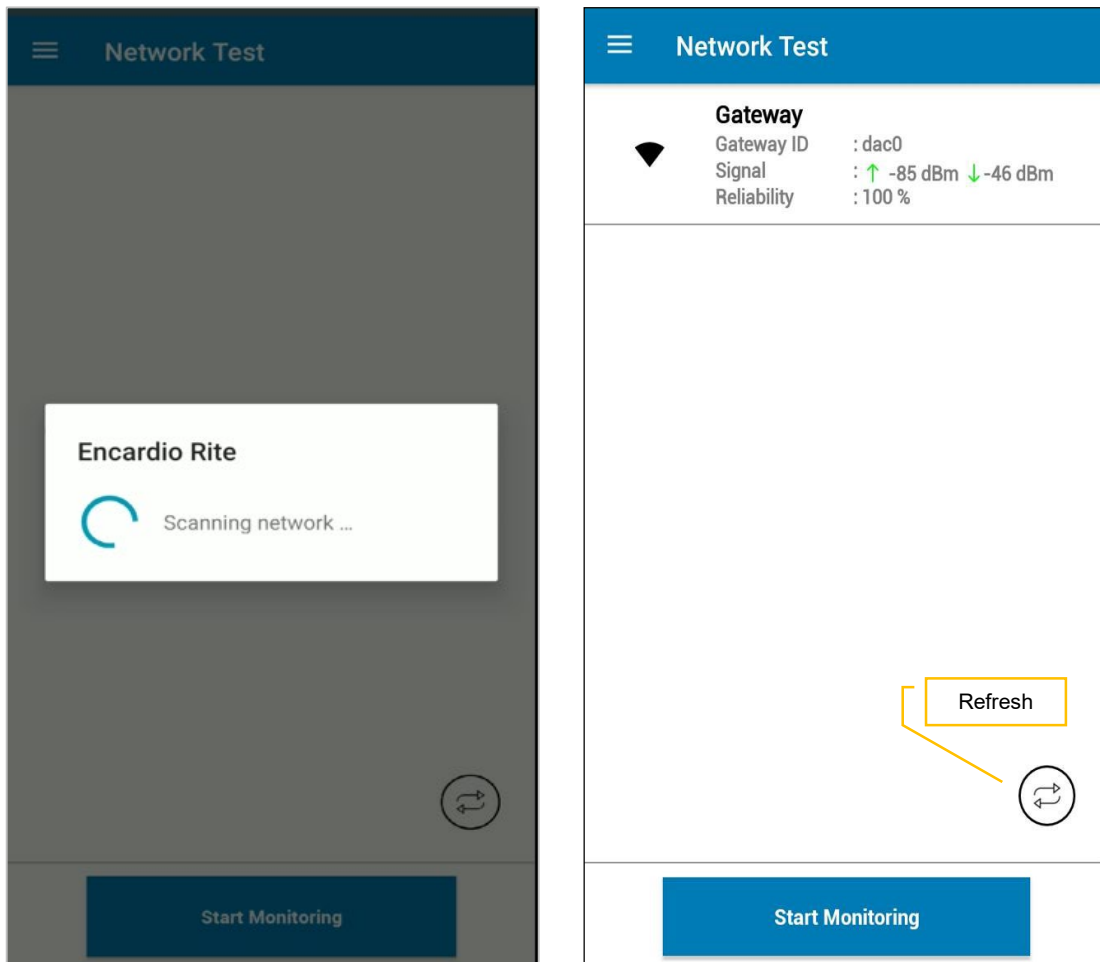

Figure 5-12
2. “Scanning Network” function will operate, which will scan the wireless signal strength (RSSI) between the Node and Gateway/Relay Node (as shown in figures 5-12).